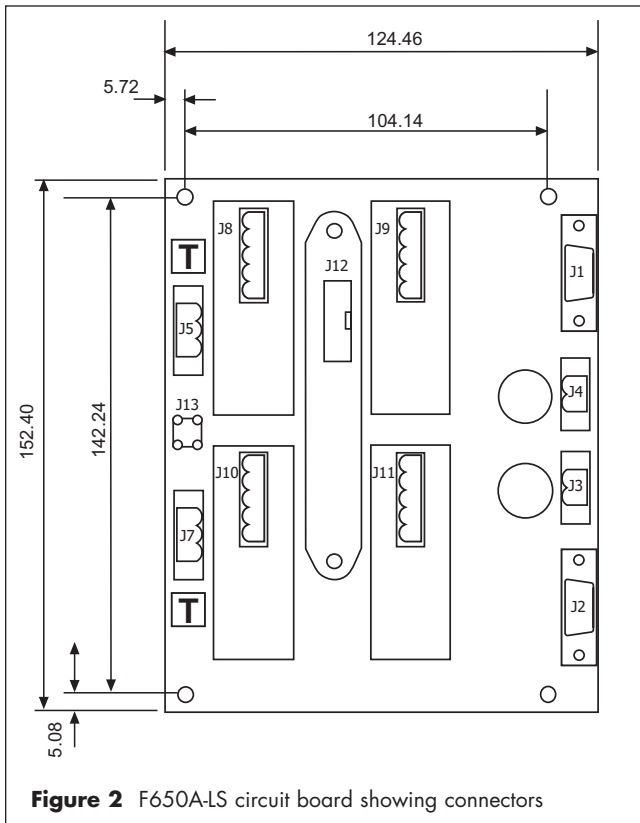

Figure 2 F650A-LS circuit board showing connectors
Important dimensions for the F650A-LS assembly are shown in Figure 2.
It is recommended that the F650A assembly is mounted on a vertical surface with the orientation of the IPM modules as shown in figure 2 above.
The F650-CL-PS is supplied fitted with four M3.5x 20mm screws and 11mm nylon spacers, on fixing centres shown in figure 2. The F650A has the same dimensions as a size 'A' Honeywell Remote Termination Panel (RTP) and is suitable for mounting in the standard mounting channel.
*Optimum orientation is when the carrier is mounted on a vertical surface as shown in figure 2.